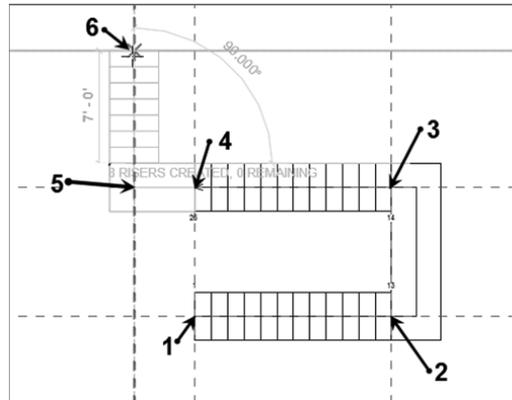

FIGURE 10.63: Picking the intersections of the reference planes to determine where the stairs will go
6. Draw your stairs as shown in Figure 10.63. (Pick the points as the figure is sequenced.)